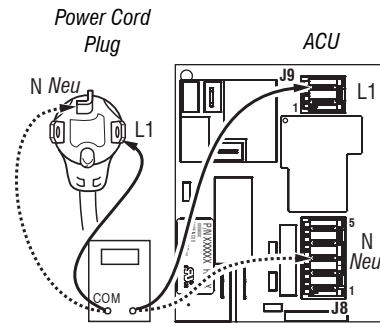

Figure 3c - Plug-to-terminal connections for electric dryer.
4. With an ohmmeter, check the continuity from L1 and N plug terminals of the power cord to the terminals for L1 and N on the ACU. See figure 3c.